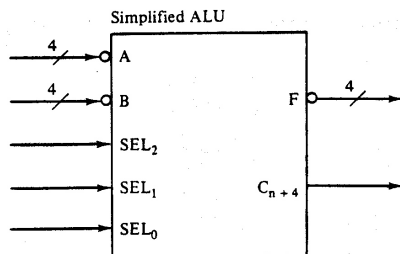

Figure 6.34 Simplified ALU for Problem 6.4.
- 6.4. Repeat Problem 6.3 using the block diagram of the simplified ALU shown in Fig. 6.34 and also the active-low view of the 74'181.